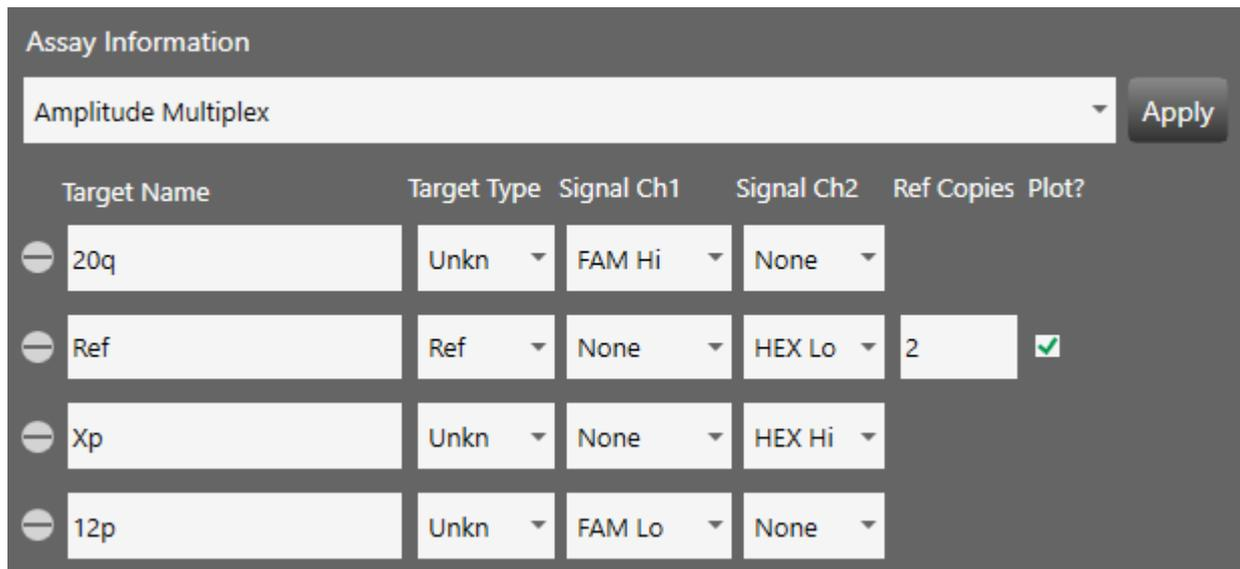

Figure 1. Example of QuantaSoft™ Analysis Pro Plate Editor tab parameters for Mix 1 assay
- In the “Plate Editor” tab (Figure 1), select all wells in one row (i.e. all wells containing the same mix).